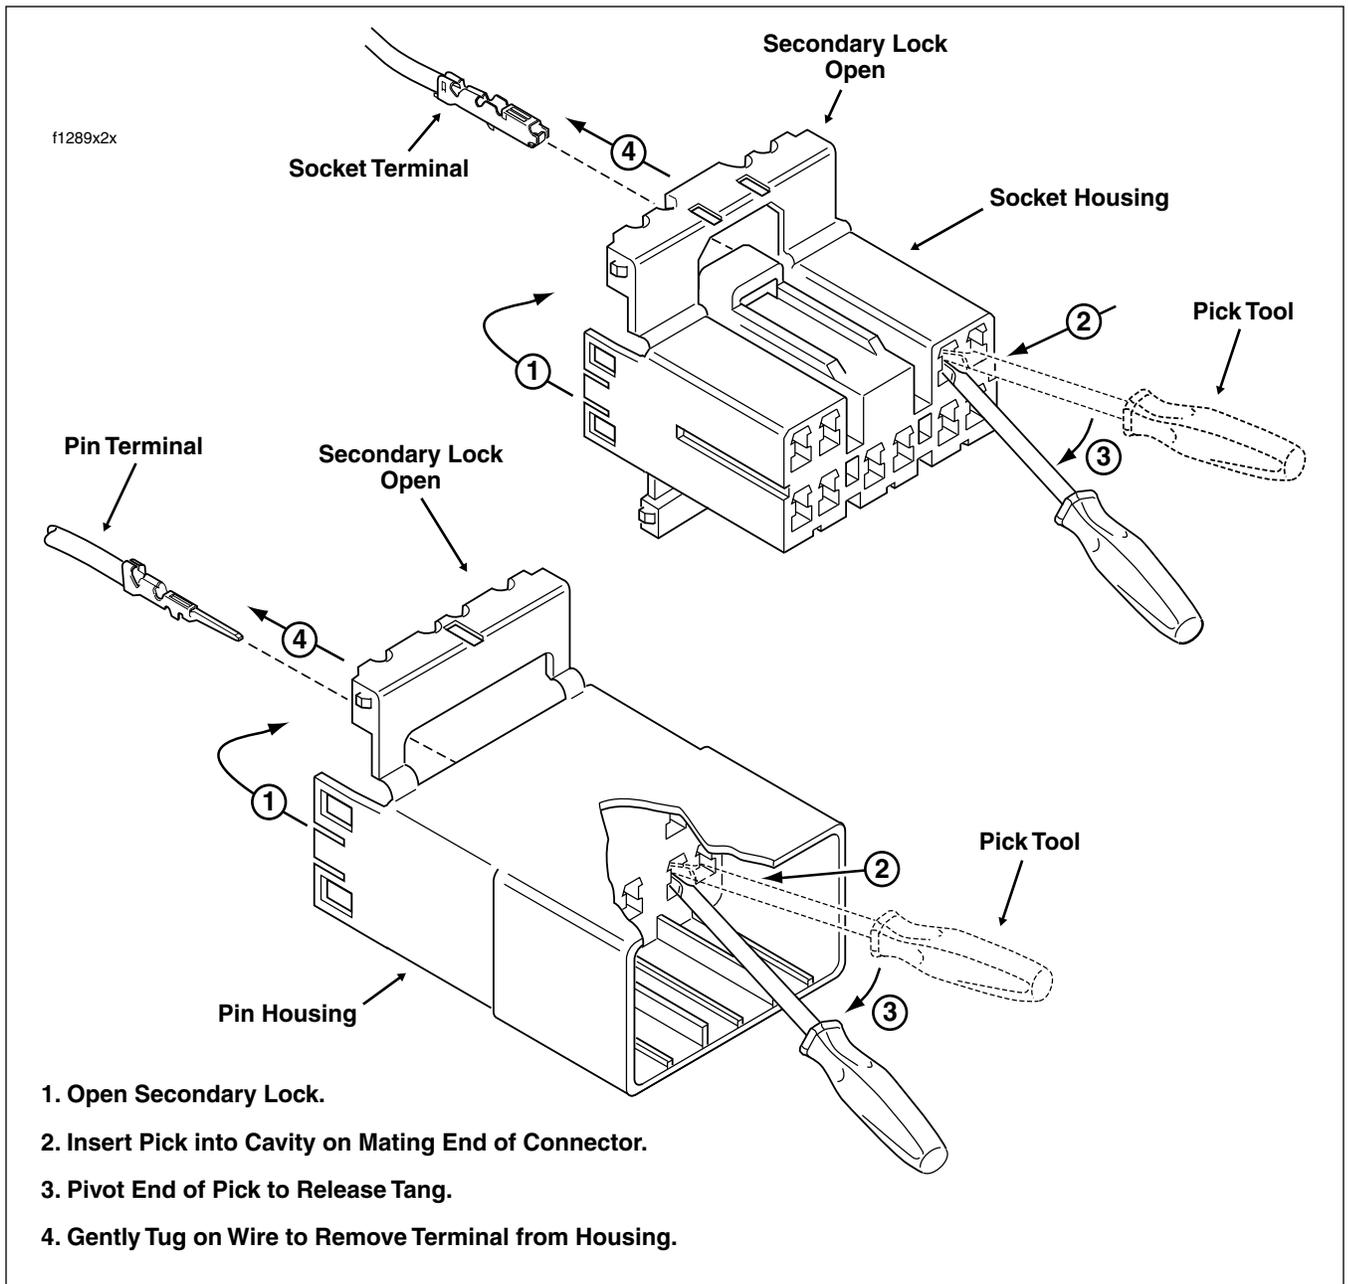

Figure 8-11. Release Tang and Back Out Terminals
5. See Figure 8-11. With the flat edge against the terminal, insert the pick (Snap-On TT600-3) into the cavity until it stops. Pivot the end of the pick away from the terminal and gently tug on wire to pull terminal from chamber. Do not tug on the wire until the tang is released or the terminal will be difficult to remove. A "click" is heard if the tang